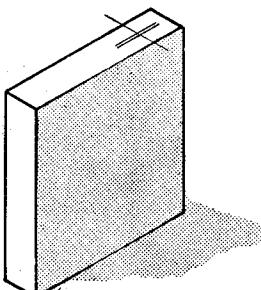

Fig. 2. The cross-centre lines are scribed on the work
*Left: Fig. 2. Each arm is fitted with a "U" shaped bracket on which the reflector is mounted*
screws and wing-nuts shown in Fig. 2. Both basins are then joined by the liberal use of heatless solder applied in the form of a fillet right round the outside of the junction of the two units.
After the cross centre-line has been scribed, the appearance of the marked-out work may be like that shown in Fig. 2, and the next thing is to mark the drilling centres with the centre punch.